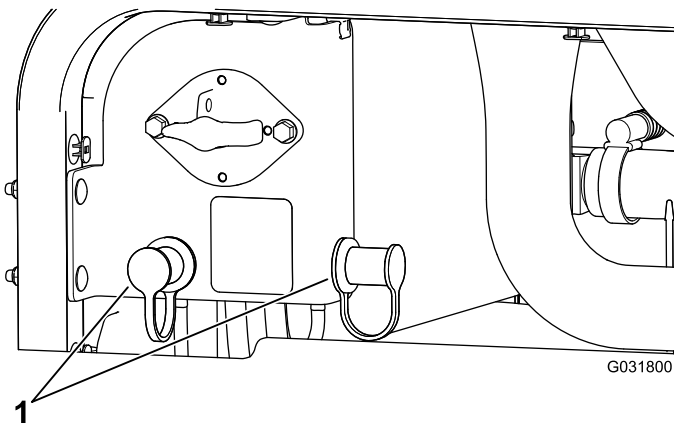

Figure 104
3. Remove the covers from the jump posts (Figure 104).